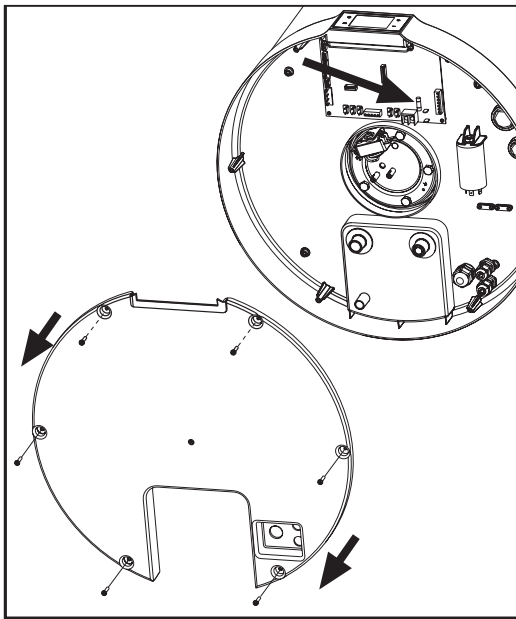

fig. 65
- Remove the bottom cover by first undoing the locking screws (fig. 65).